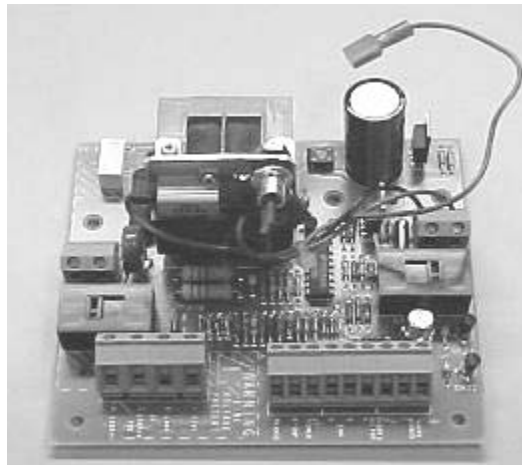

Fig 11
13. Install the new control board (Fig 11) into the PDU using the five M4 Torx screws removed in step 12. Tighten these screws using a T20 Torx driver and torque to 16 inch-lb (1.81 n-meter)